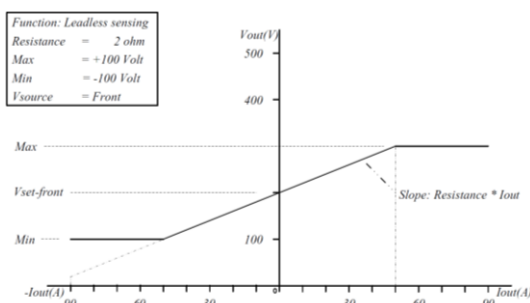

Figure 8.11: Leadless sensing example
- The resulting behavior is shown in Figure 8.11.